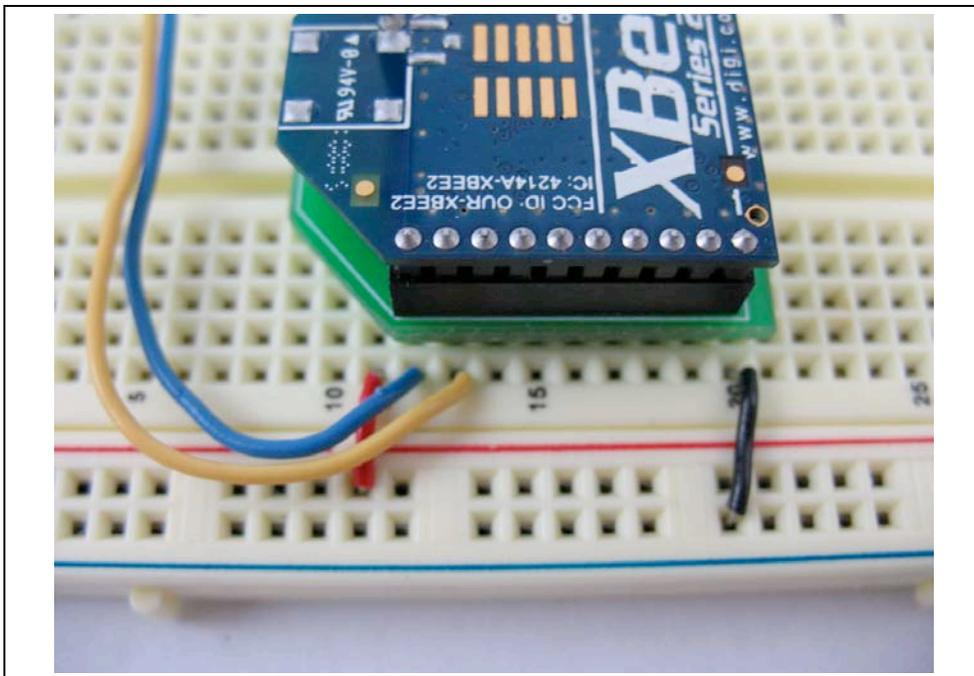

Figure 5. Power, ground, transmit, and receive connections on XBee.
2. Use red hookup wire to connect pin 1 (VCC) of the XBee to 3.3 volt power. See Figure 5.
5. Finally, use blue (or another color) hookup wire to connect pin 3 (RX / DIN) of your XBee to digital pin 1 (TX) on your Arduino. Figure 5 shows the connections to the XBee.